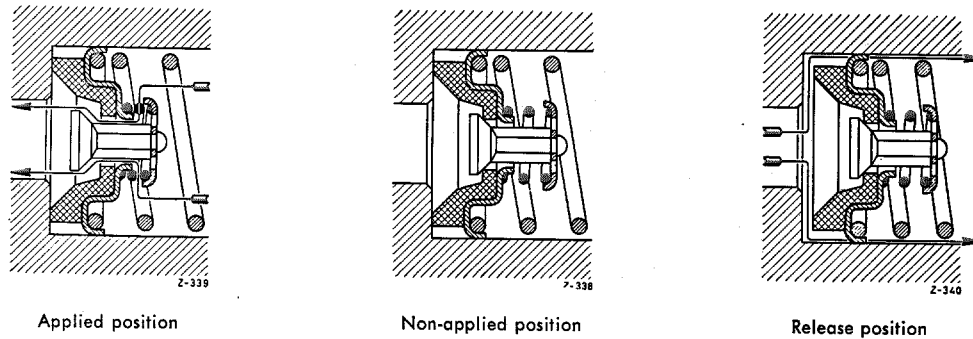

Fig. 42 — 0/6
Fig. 42 — 0/5). If the compensating port is closed, the brake fluid cannot flow back when it expands under the influence of heat. The result would be drum-shoe contact and a constant dragging of the brake shoes.
In addition to the compensating port, a check valve (7) in the brake master cylinder is necessary to provide for the fluid exchange between fluid reservoir, brake master cylinder, and the brake line system (Fig. 42 — 0/5 and Fig. 42 — 0/6).